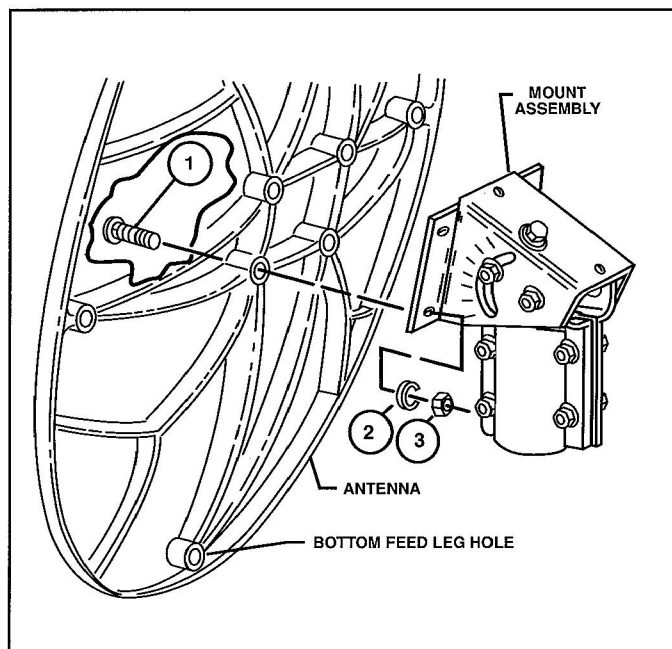

FIG. 2.0 - ASSEMBLING REFLECTOR TO AZ/EL CAP MOUNT
Install four M8 x 60mm (2 3/8") carriage bolts (1) into holes in center of reflector and assemble to cap mount flanges. (Reference Fig. 2.0) Install four lock washers (2) and hex nuts (3) on bolts. Tighten and torque to 11 ft.-lbs (15 N-m).
IMPORTANT! Bottom feed leg hole to be located as shown in Fig. 2.0.